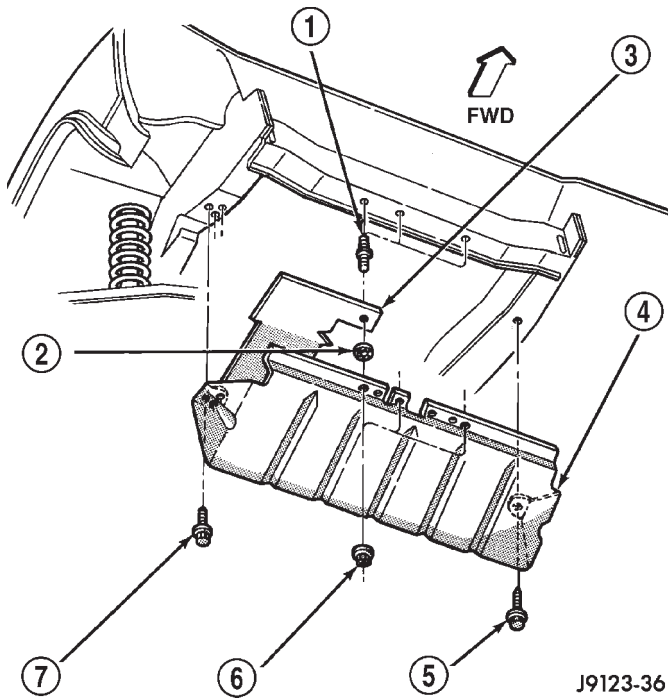

Fig. 1 Front Skid Plate
- (1) Remove the screws that attach skid plate to side sills.
- (2) Remove the nuts that attach the skid plate to the crossmember (Fig. 1).
- (3) Remove the skid plate from the vehicle.